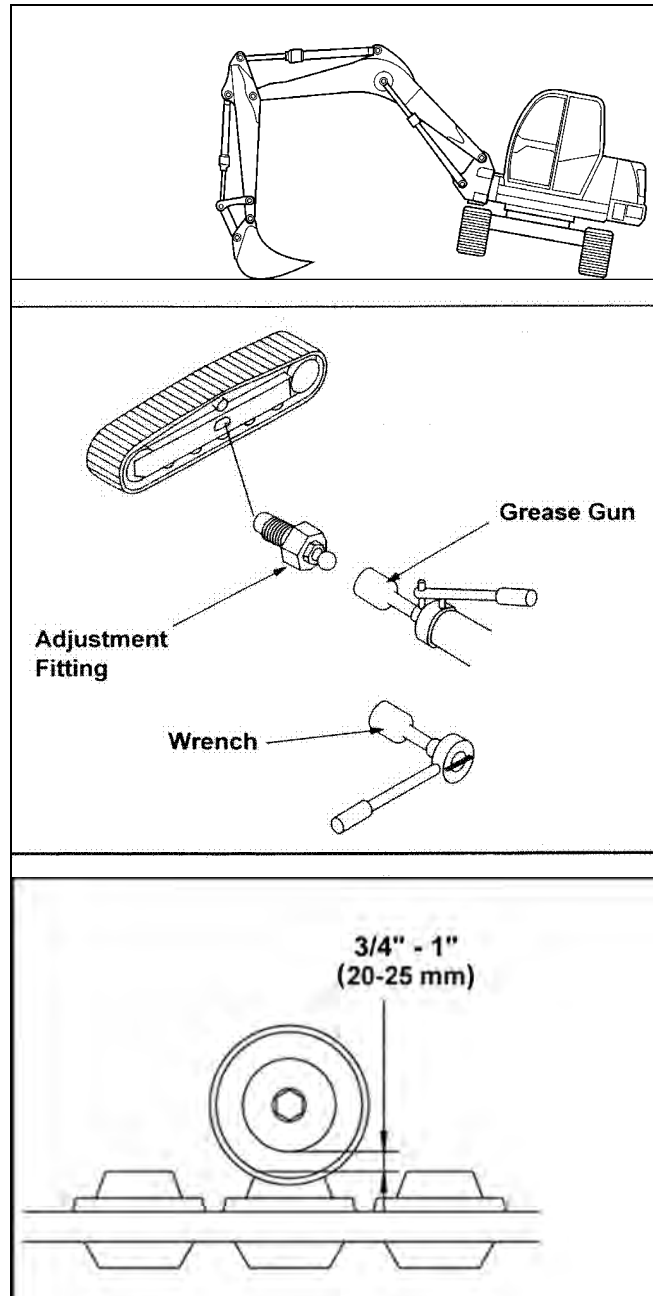

Figure 4-21 Track Adjustment
2. Use the bucket and dozer blade to lift the unit up until tracks are just clear of the ground as shown in Figure 4-21.